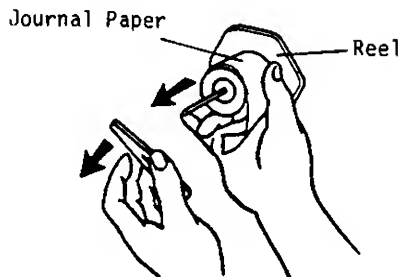

Fig. 11
3. The wound-up portion of the paper can easily be removed from the Reel by pulling it side way (Fig. 11).